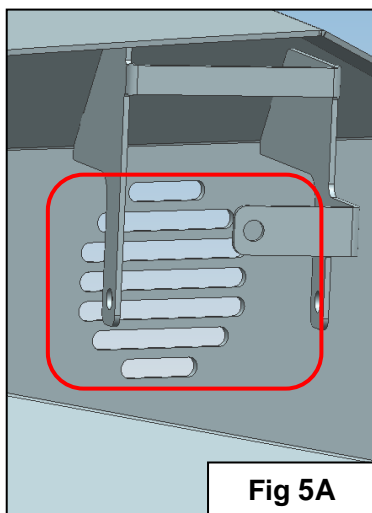

Fig 5A
1. Remove the fog light from the vehicle. Use the OEM screws and nut plates to fasten the fog light to the bumper (**Fig 5A & 5B**).